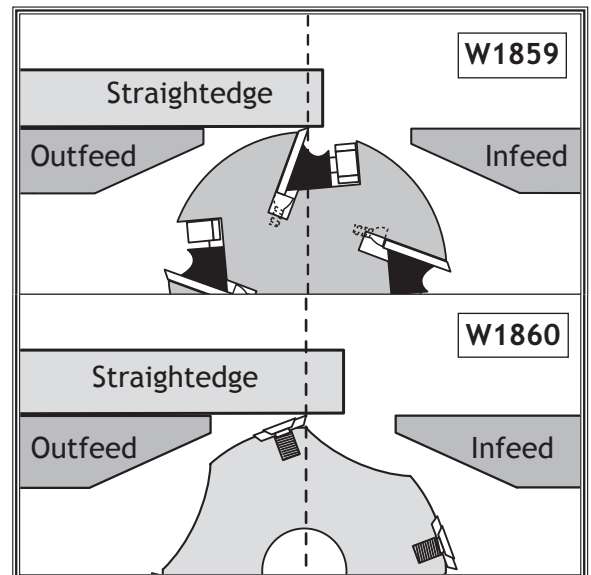

Figure 50. Using straightedge to check outfeed table height.
7. Use outfeed table lever to set outfeed table so knife or insert barely touches straightedge, as shown in **Figure 50**.